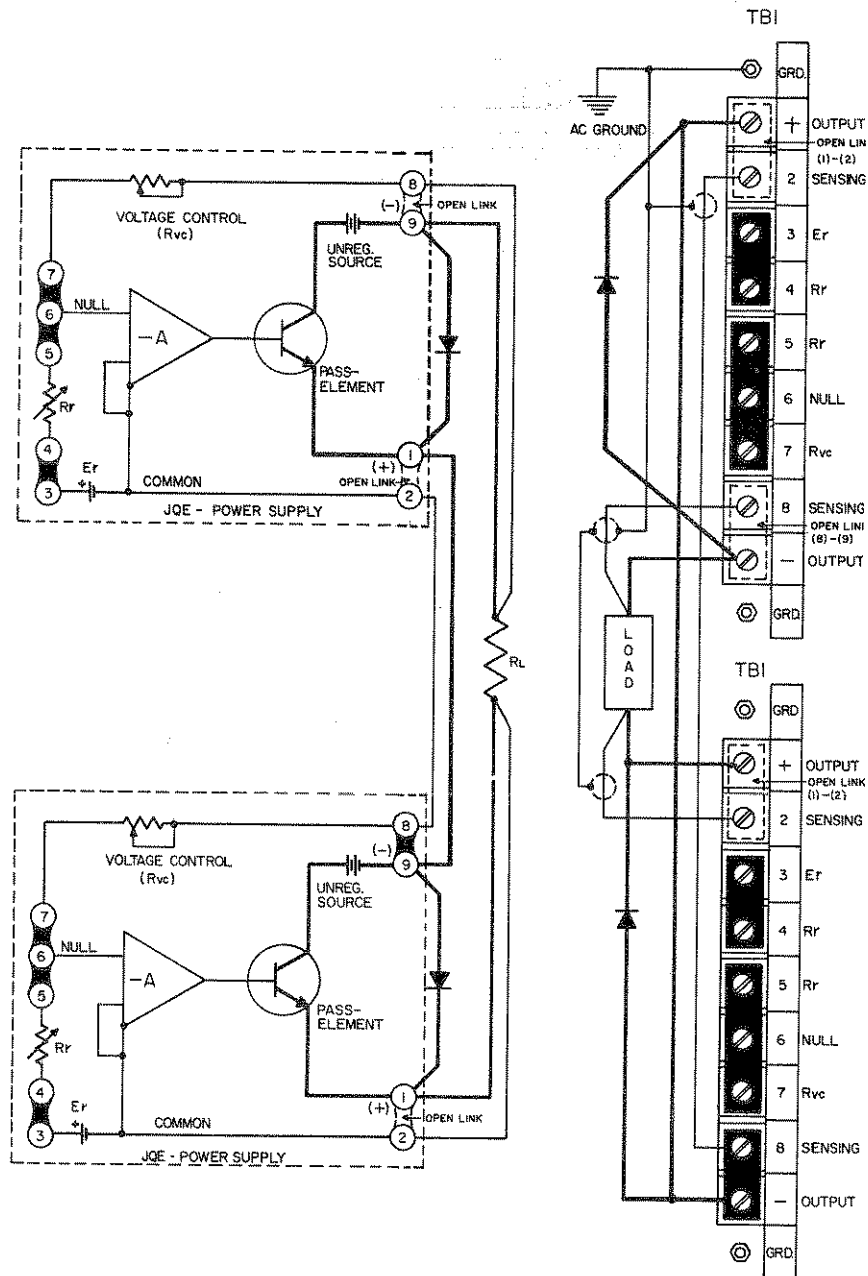
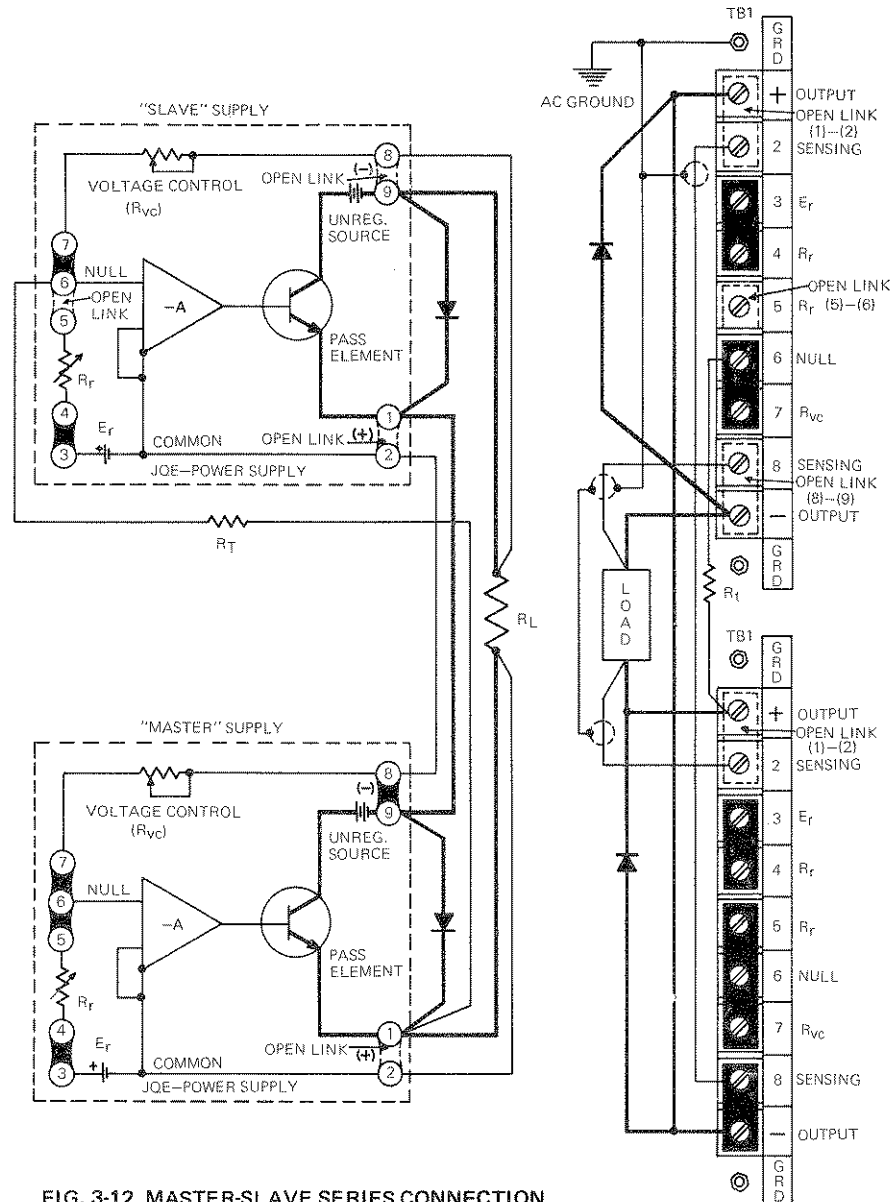

FIG. 3-11 AUTOMATIC SERIES CONNECTION OF JQE POWER SUPPLIES
FIG. 3-12 MASTER-SLAVE SERIES CONNECTION
3-35 General. Kepco JOE Power Supplies can be series-connected for increased voltage output, provided the specified limits on voltage to chassis are not exceeded. When series-connected, the supplies should be protected by means of a semi-conductor diode across the output terminals of each power supply, as shown in FIG. 3-11. The peak inverse rating of these diodes must be at least as large as the output voltage of the supply to which they are connected. The continuous current rating of the diodes should be at least as great as the largest short-circuit current of the interconnected supplies.
- Connect load as shown in FIG. 3-11. Keep voltage drop in load wires as low as practical by using heavy gauge wire.
3-37 An alternate method of series connecting two or more power supplies is shown in FIG. 3-12. The basic difference between the "Automatic" series connection, shown in FIG. 3-11, and the "Master-Slave" connection (FIG. 3-12) is that with the former connection the outputs of both supplies may be controlled or programmed individually, while with the latter method only the "Master" supply is controlled while the "Slave" supplies follow the command of the "Master" in a ratio which may be pre-determined by the user. The "Master-Slave" series connection is therefore often termed an "Automatic Tracking" configuration.
As seen from FIG. 3-12, the reference voltage of the "Slave" supply is disconnected and its input (null junction) is connected to the output of the "Master" supply. Since the control current for the "Slave" supply is thereby derived from the "Master", the "Slave" output is thus completely dependent on the "Master" supply output:
As seen from the equation, if the tracking resistor (R_t) is made equal in value to the voltage control resistor of the "Slave" (R_{Vcs}), a tracking ratio of 1:1 is achieved, and the output of the "Slave" will equal that of the "Master". If a single load is connected to the series combination (FIG. 3-12), twice the "Master" output is applied to it, if separate loads are connected, identical voltages are applied to the individual loads. The ratio E_{Os}/E_{Om} can be readily changed if the application so requires by simply changing either R_{Vcs} or R_t .
- Connect load(s) as shown in FIG. 3-12.